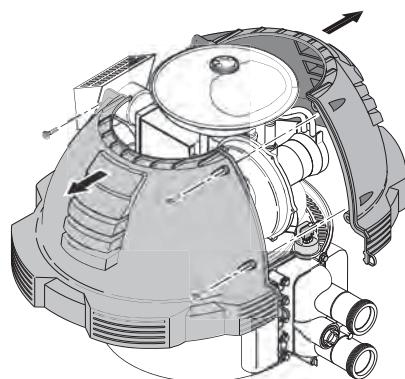

Figure 28.
5. Remove the jacket cover(s) by unfastening the screws connecting both halves of the top jacket, see Figure 28.
3. Remove the jacket cover(s), see Figure 28.